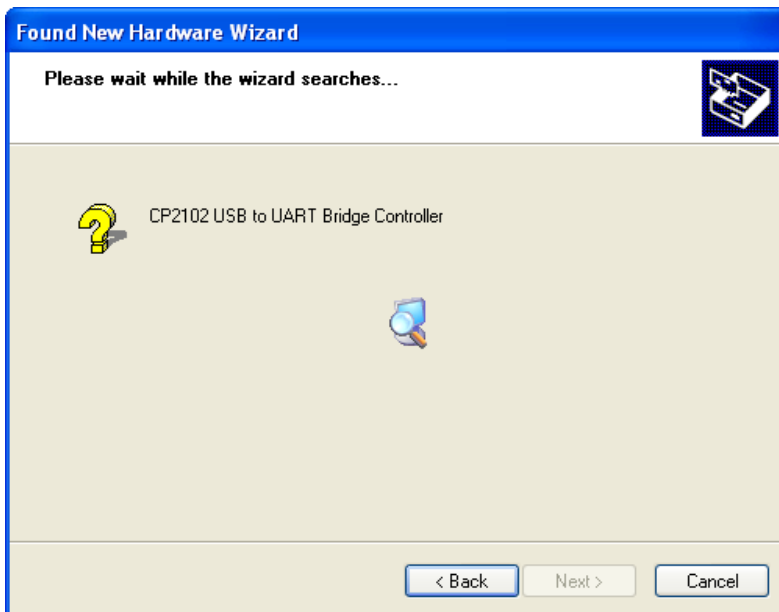
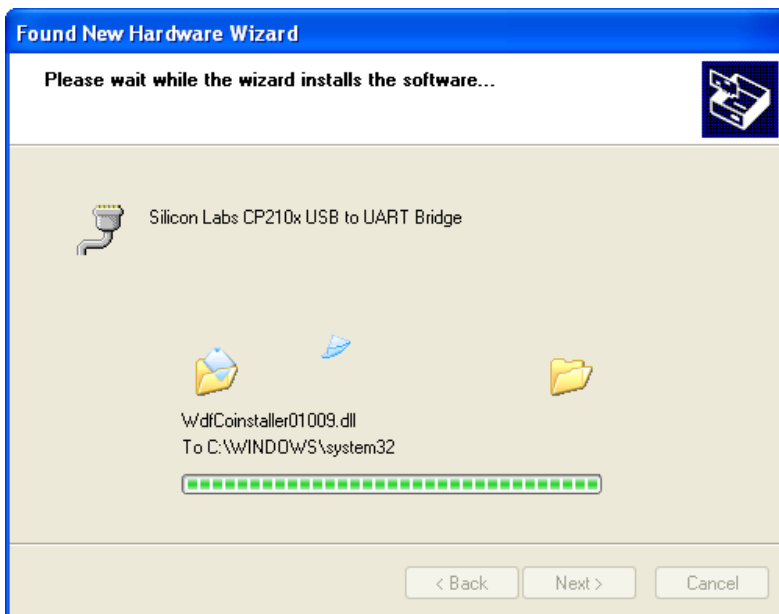
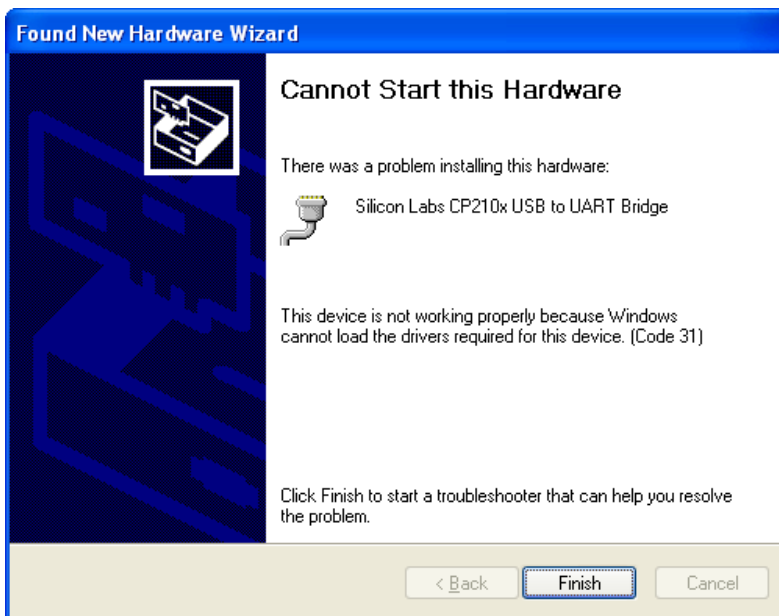

Figure 6 - Screen, New Hardware Wizard (Setting a System Restore Point)
Figure 7 - Screen, New Hardware Wizard (Installation Status)
Figure 8 - Screen, New Hardware Wizard
- 6) The screens in Figure 6 and Figure 7 will appear while the driver file is being initialized. When that process is complete, Figure 8 will appear. Click **'Finish'**.